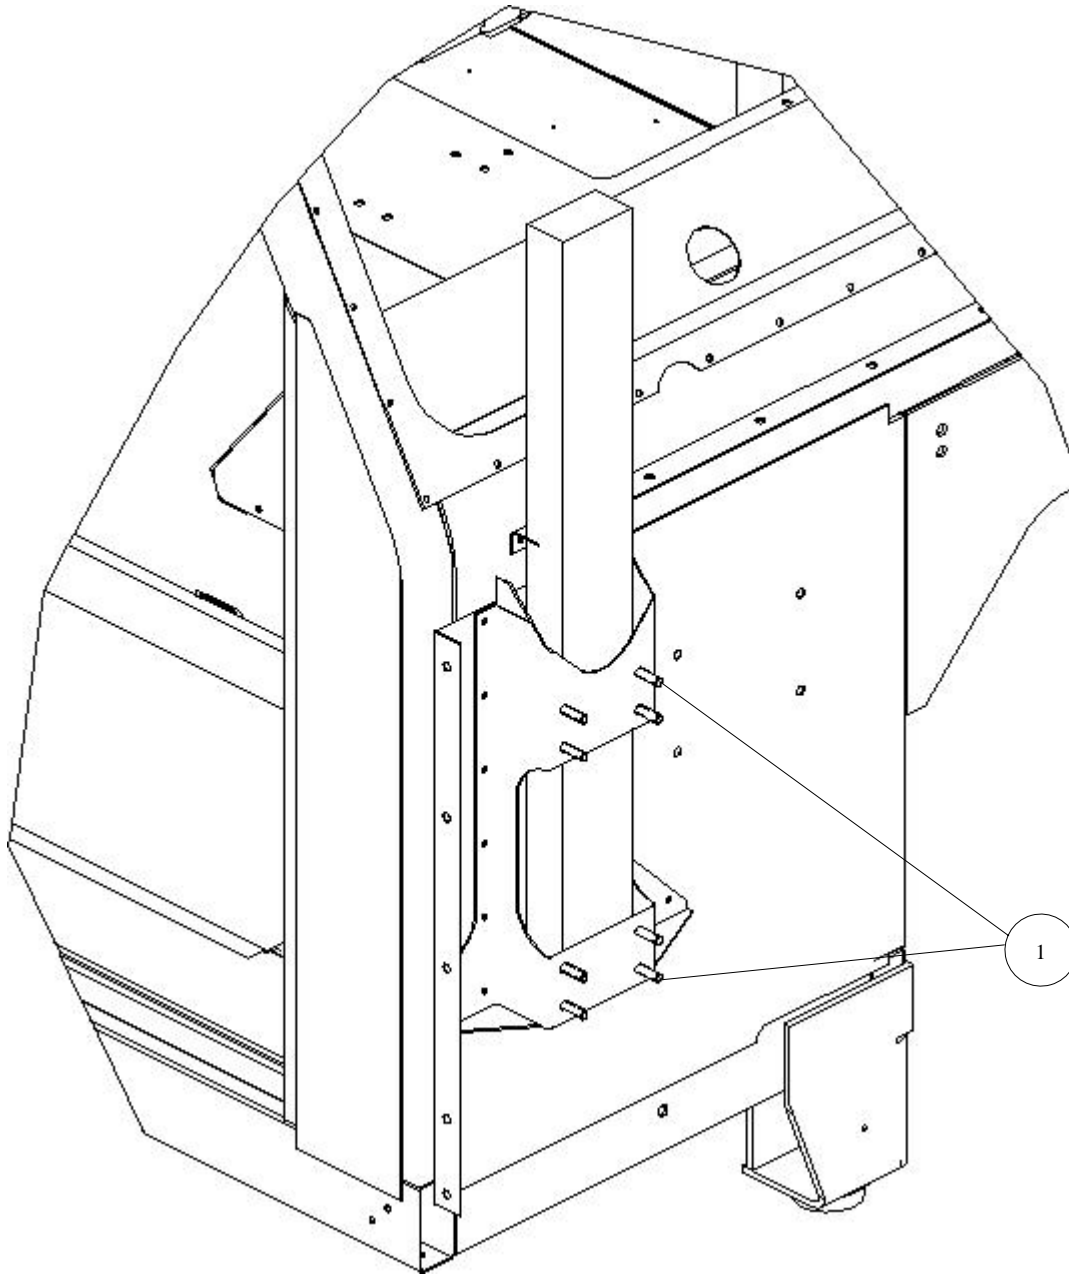

Figure 3-54. Power Steering Brackets Installation.
3. Install power steering brackets as follows (see Figure 3-54):